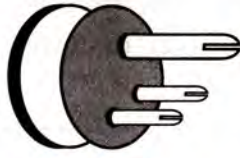

Fig. 9.26
16. The diagram in Fig. 9.26 shows a three pin plug. Label the three pins.